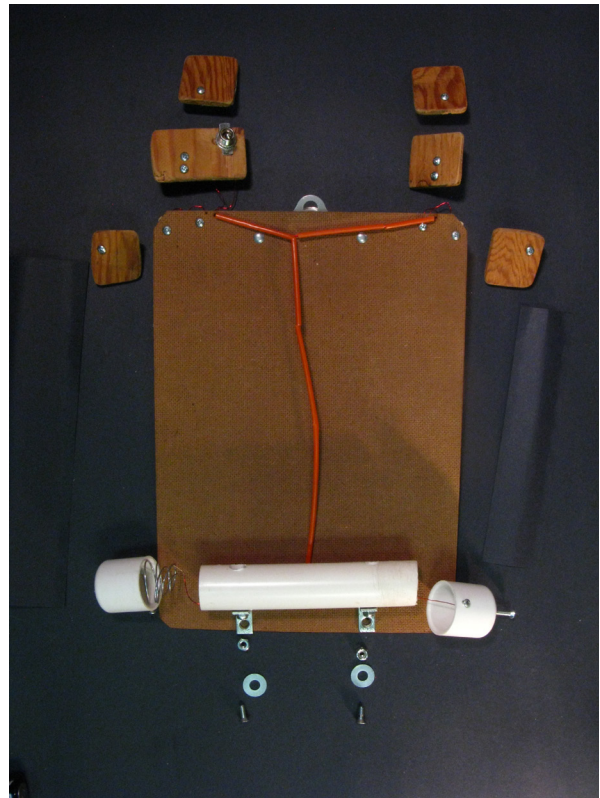

Figure 7: semi-exploded diagram, back view
- Measure, mark and drill holes into the clipboard, as shown (Figure 7).
- Thread enameled wires from battery pack through coffee straws and up through the two small holes in top of board (Figure 7). Be careful not to strain the delicate enameled wire.